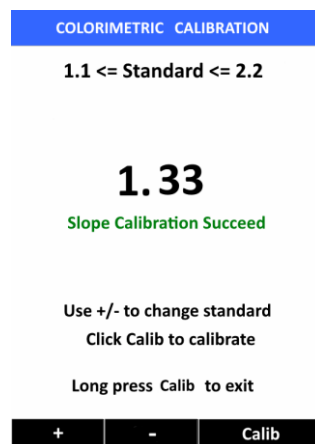

Figure 31
10. "Slope calibration succeeds" will be displayed if slope calibration completed (Figure 31).